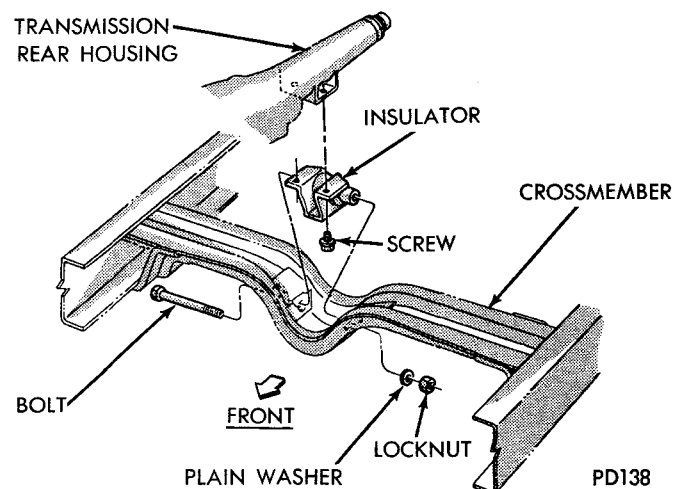

Fig. 3—Rear Transmission Mount
- (4) Disconnect speedometer cable and back-up light switch leads.
- (5) Install engine support fixture C-3487A, with adapters Tool DD-1279 firmly over frame rails. Be sure support ends are up against underside of oil pan flange.
- (6) On the 100, 200 and 300 models, remove the long bolt securing insulator assembly to crossmember (Fig. 3).
- (7) Support transmission with a suitable jack.
- (8) Remove transmission to clutch housing bolts. Slide transmission toward rear until drive pinion shaft clears clutch disc, before lowering transmission.
- (9) Lower transmission and remove from under vehicle. Thoroughly clean exterior of unit.